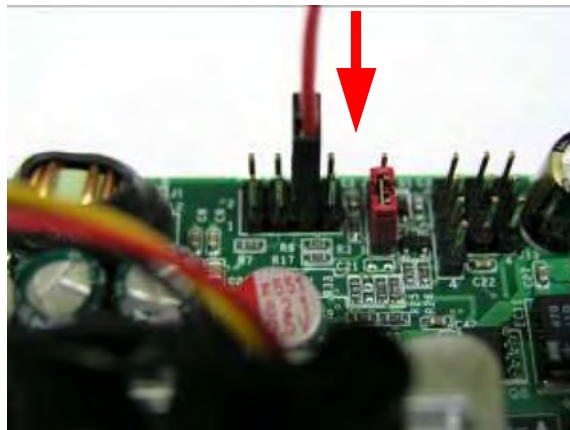

Figure 5-5
Step 5: Connect TOGGLE SWITCH with J7 connector on 3301390 series (Figure 5-5), which is used to power on ATX Power Supply. Generally, the TOGGLE SWITCH is located on the chassis of front panel.